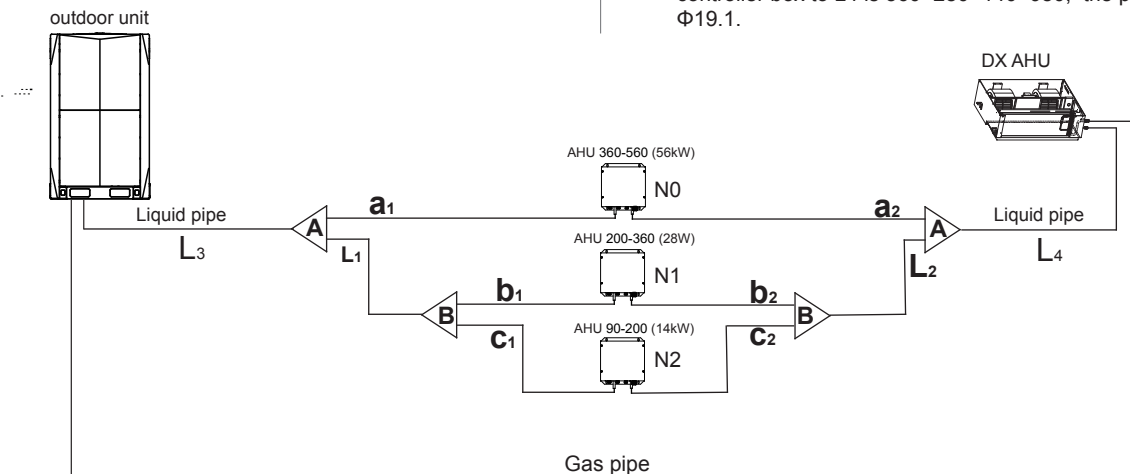

Figure 3-7
Pipe name	Code(refer to Figure 3-7)
e.x.1: Refer to Figure 3-7, the capacity of downstream controller box to L4 is 560+280+140=980, the pipe is Φ19.1.